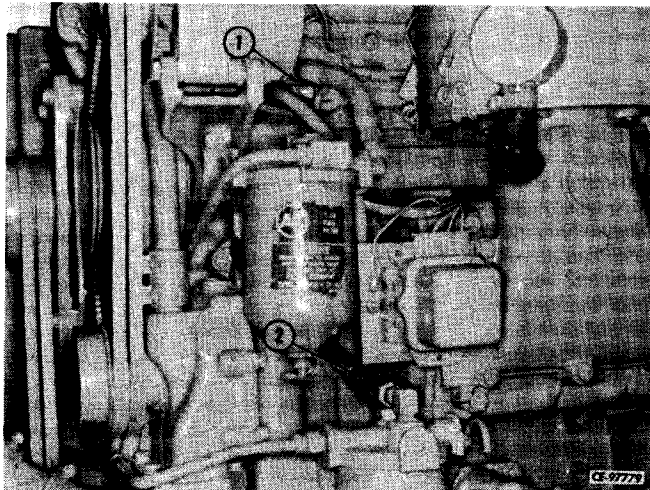

Figure 2-8
Disconnect, plug and tag engine fuel supply line (2, Fig. 2-8) and fuel return line (1). Pull fuel lines free of engine.
Position and connect engine fuel supply and return lines (1, 2, Fig. 2-8).